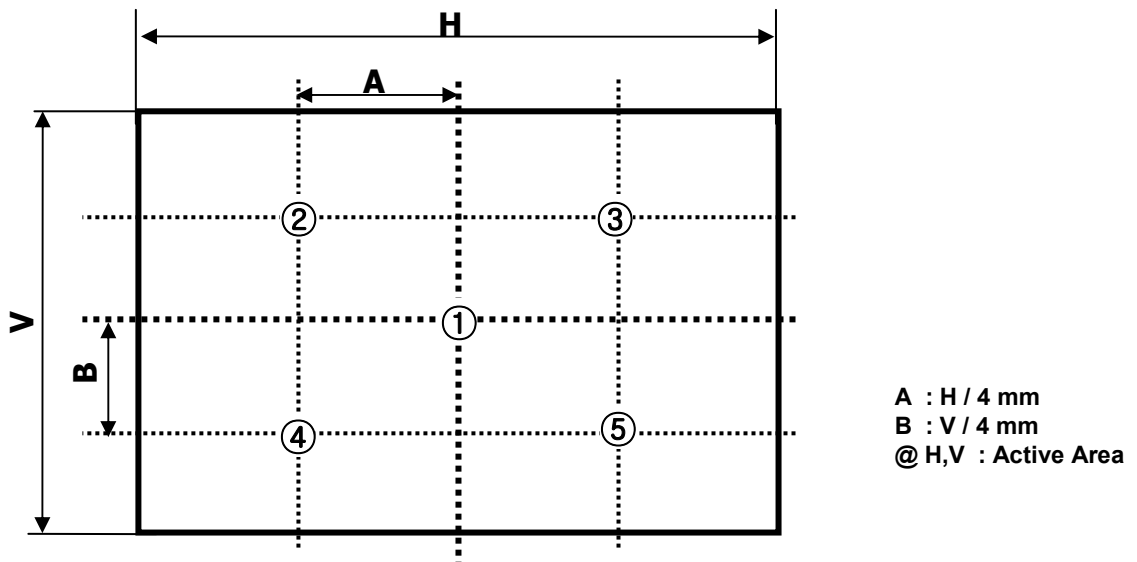

FIG. 2 5 Points for Luminance Measure
n = the Position number(1, 2, 3, 4, 5). For more information, see FIG 2.
2. Surface luminance is determined after the unit has been 'ON' and 120min after lighting the backlight in a dark environment at 25±2°C. Surface luminance is the luminance value at center 1-point across the LCD surface 50cm from the surface with all pixels displaying white. For more information see the FIG. 2.
For more information, see the FIG. 2.